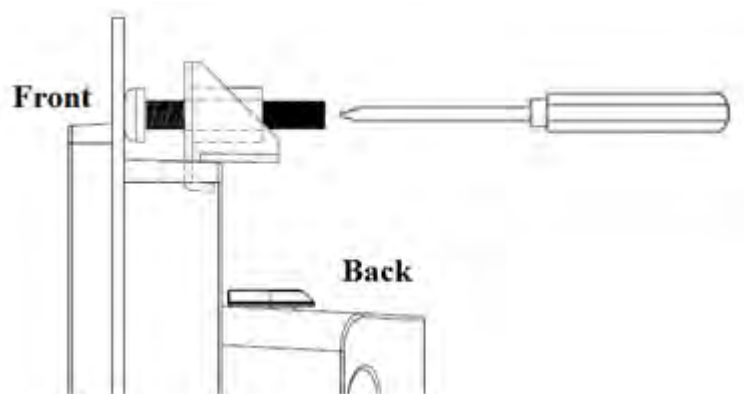

Figure 2.26 Fasten the hook bracket
4. Tighten the screws to affix the panel PC in place (Figure 2.26).